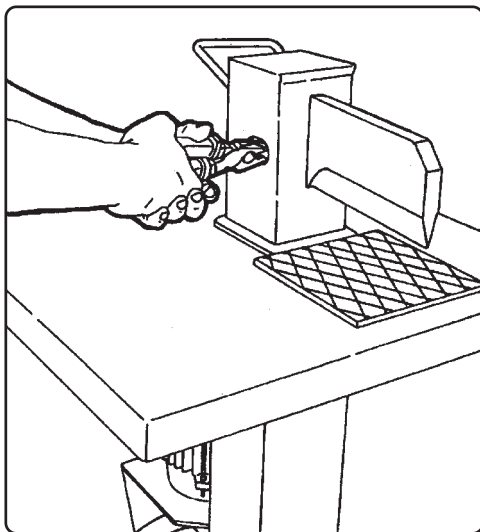

Fig. 8
- 2) With the aid of pliers, turn the pin inside the compartment (Fig. 8) 90 degrees anticlockwise. The stop strip will now be in the horizontal position and the pin can be removed.